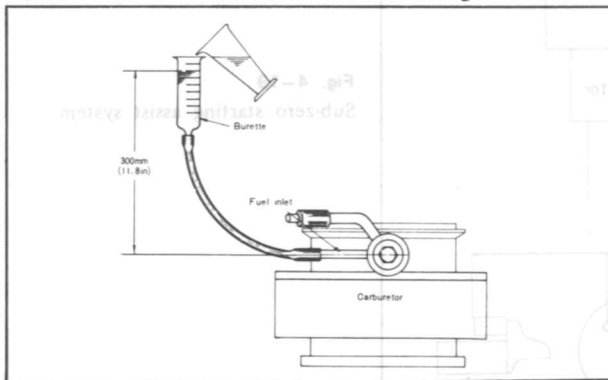

Fig. 4-15 Checking fuel discharge
4. Set the fuel level in the burette at 300 mm (11.8 in) above the fuel inlet, as shown in Fig. 4-15.
5. Fully operate the throttle valve ten times according to the cycle as shown in Fig. 4-15 by means of the throttle lever or accelerator pedal and check the amount of discharge by reading the decrease of fuel in the burette.